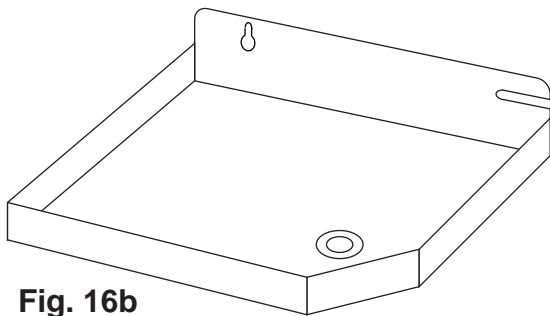
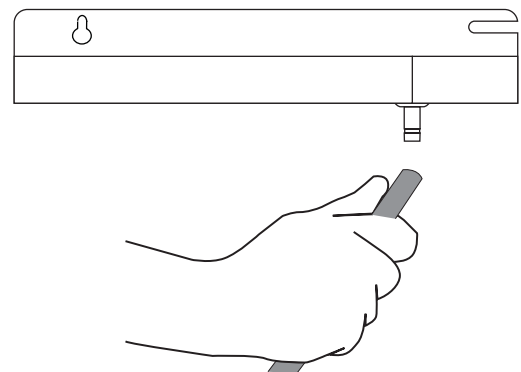

Fig. 16b
Fig. 16c
16.2 Take the 5/16 dia. plastic tube and push one end on the connector located at the bottom of the overflow pan. Please see Fig. 16b and Fig. 16c.